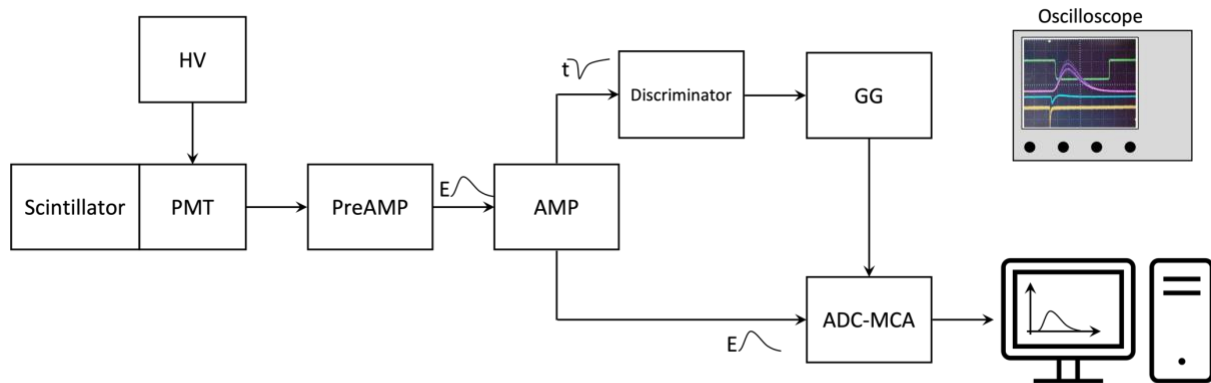

Figure 5. Electronic chain to be used for the signal analysis.
3. With the scheme shown in Fig. 5, mount the electronic chain for a scintillation detector, in each step of the electronic chain, observe the signal shape in the oscilloscope and discuss the signal characteristics.